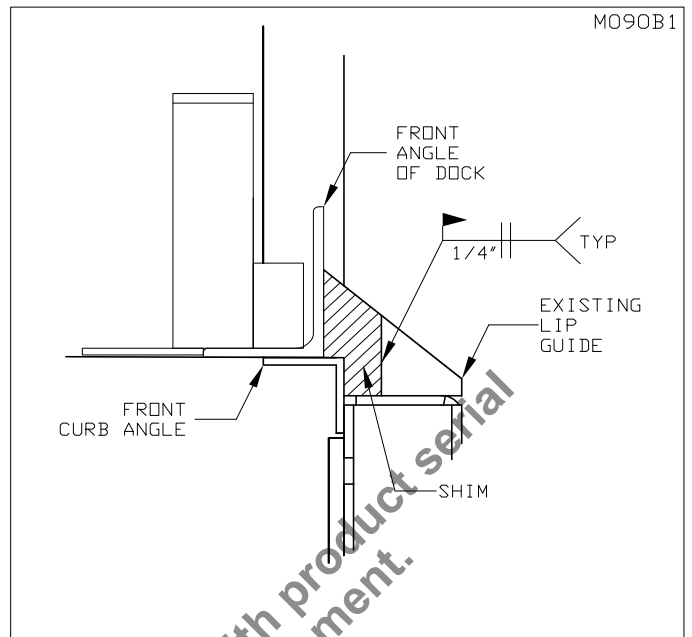

Figure 3. Front Angle Lip Guide
5. ___ Some dock levelers may be set back from the front face of the dock pit. A shim must be cut to suit the gap between the back of the roller track plate and the face of the front angle of the dock leveler frame. "Figure 3: Front Angle Lip Guide" on page 5 shows a sample configuration (See the cross hatched area). The shim must be a minimum of 1/2" thick steel material. The shim must be positioned and welded in place.